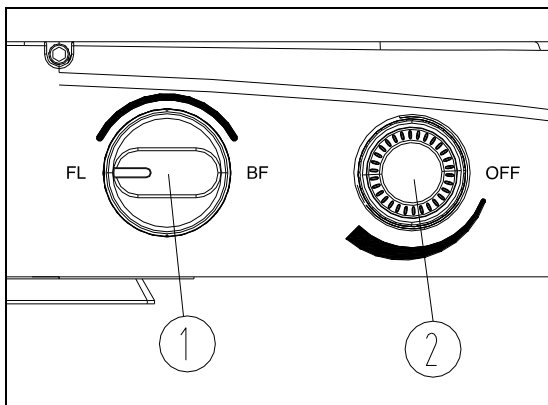

Fig. 30
8. The LED fluorescence filter block adjustment knob ① can be rotated 180° in the direction of the arrow to change between transmitted brightfield and LED fluorescence illumination and observation. FL means fluorescence observation, and BF means brightfield observation. (See Fig. 30)
9. Illumination Intensity: Rotate the adjustment knob ② in clockwise to turn on the LED fluorescence lamp is turned on – the knob will click when the LED lamp turns on. Rotate the knob clockwise to increase the FL LED intensity; Rotate the adjustment knob ② counterclockwise to reduce the brightness of the LED fluorescence lamp. To turn off the FL LED lamp, continue to turn the knob counterclockwise until it clicks. (See Fig. 30)